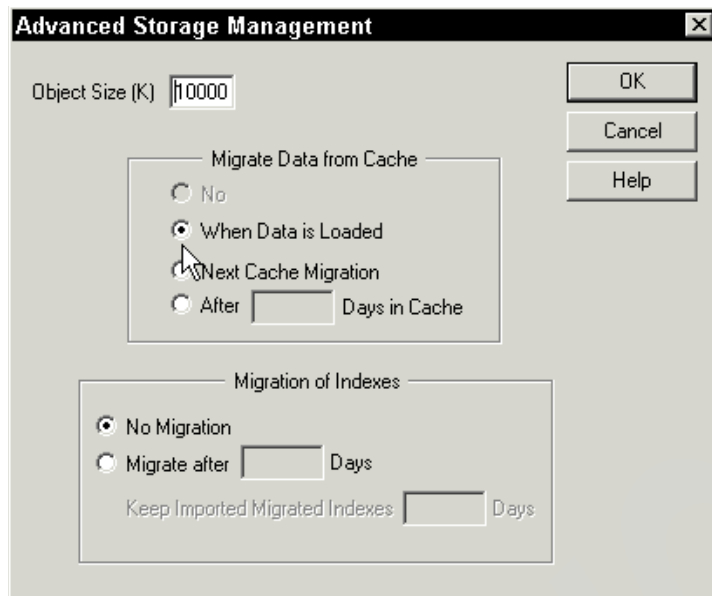

Figure 8-37 Advanced Storage Management window
- a. A storage set associated with a Tivoli Storage Manager client node must be selected to enable migration to archive storage. See Figure 8-37 on page 338.